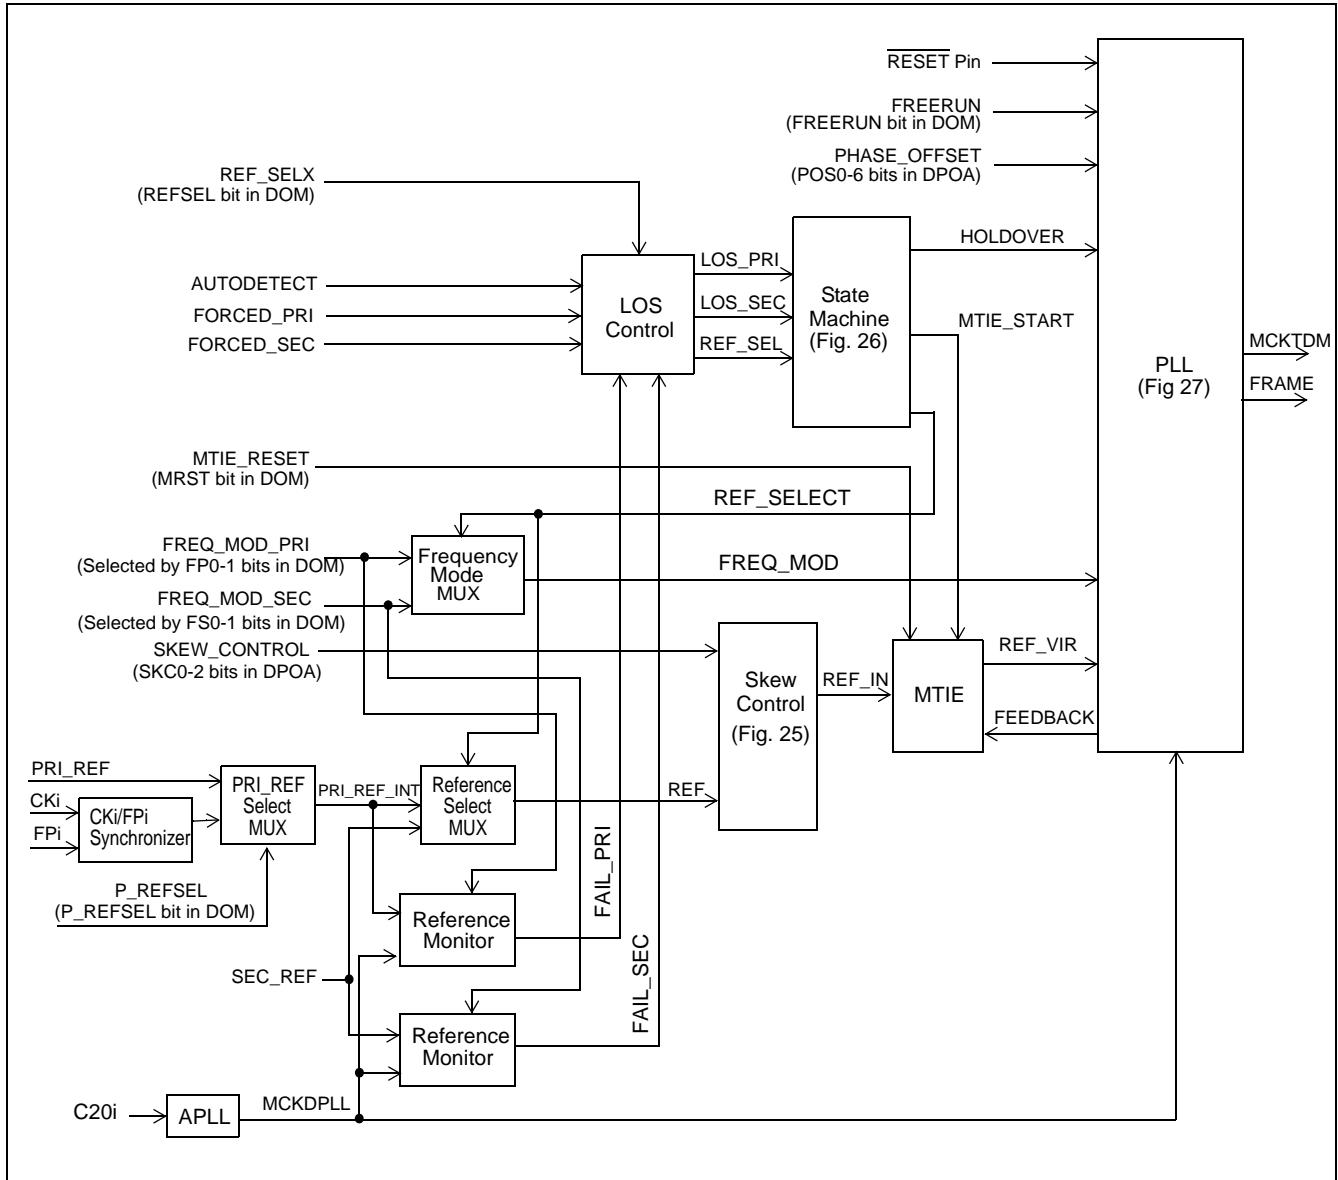
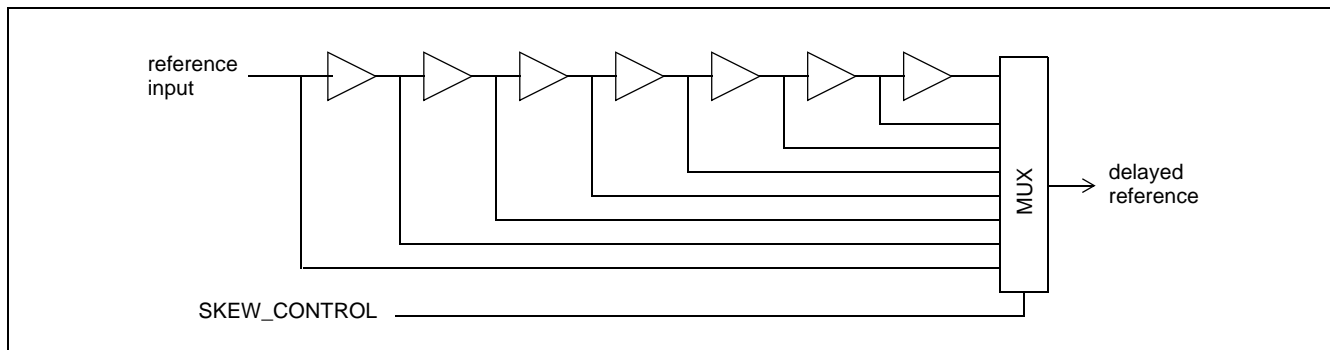
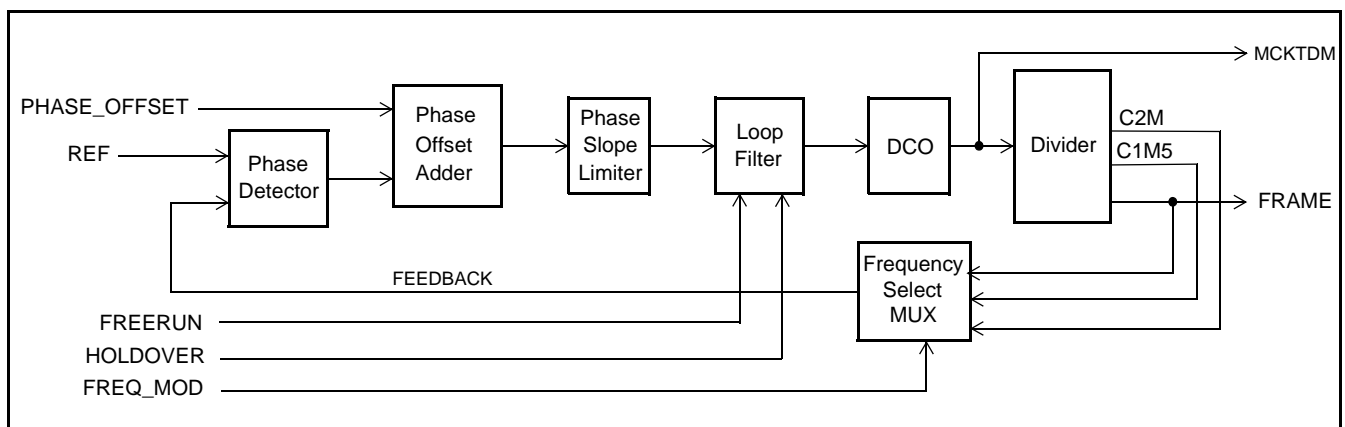

Figure 25 - DPLL Functional Block Diagram
Figure 26 - Skew Control Circuit Diagram
Figure 28 - Block Diagram of the PLL Module
The input streams STi0-15 are always sampled with the ST-BUS input clock  $\overline{CK}_i$ . The ST-BUS input frame pulse  $\overline{FP}_i$  denotes the input frame boundary. The objective of the DPLL is to generate the high speed internal clock MCKTDM (see Figure 25 on page 35). MCKTDM provides timing for the TDM switching function and timing for the ST-BUS outputs. (In this context  $\overline{CK}_{o0-2}$ ,  $\overline{FP}_{o0-2}$ , STo0-15 and STOHz0-15 are collectively known as the ST-BUS outputs.)
Figure 25 shows the functional block diagram of the DPLL. Major functional blocks are described in the following sections. When the DPLL is in Master or Freerun mode, the APLL input is C20i from the oscillator and the APLL multiplies C20i to generate the DPLL master clock MCKDPLL.
The ST-BUS input frame pulse ( $\overline{FPI}$ ) is sampled with the ST-BUS input clock ( $\overline{CKi}$ ) inside the CKi/FPi synchronizer to create the 8 kHz reference CKi/FPi. Either CKi/FPi or PRI\_REF is selected by the reference select bit (P\_REFSEL in the DOM register) as the PRI\_REF\_INT input to the Reference Select Mux in Figure 25.
The Skew Control circuit delays the selected reference input with an 8 tap tapped delay line (see Figure 26). The nominal delay between taps is 1.9 ns. Thus the selected reference can be delayed by 0 to 13.3 ns in steps of 1.9 ns (0 to 7 steps). The output tap is selected by SKEW\_CONTROL which corresponds to the SKC2-0 bits of the DPLL Output Adjustment (DPOA) register. Skewing the reference will cause the feedback signal in the PLL block (FEEDBACK in Figure 28 on page 38) to be delayed by the skew amount with respect to the original reference. This will cause the DPLL output to be delayed by the skew amount. Hence the ST-BUS outputs will be delayed by the skew amount.
The MTIE circuit receives the skewed reference from the Skew Control circuit and delays it. This delayed signal is used as a virtual reference (REF\_VIR in Figure 25 on page 35) to input to the PLL block. Therefore the virtual reference is a delayed version of the selected reference. During a reference switch, the state machine first changes the operation of the PLL from normal to holdover. In holdover, the PLL no longer uses the virtual reference signal, but generates a stable output clock using stored values. When the state machine changes to MTIE PRI or MTIE SEC, the PLL block remains operating in holdover. The MTIE circuit measures the phase delay between the current phase (FEEDBACK signal in Figure 25 on page 35) and the phase of the new reference signal (REF\_IN in Figure 25). The MTIE circuit stores the measured delay. From now on the MTIE circuit always delays the reference signal by the stored value to become the virtual reference. The virtual reference is now at the same phase position it would have been if the reference switch had not taken place. The state machine then returns the PLL to normal operation.
As shown in Figure 28, the PLL circuit consists of a Phase Detector, Phase Offset Adder, Phase Slope Limiter, Loop Filter, Digitally Controlled Oscillator, Divider and Frequency Select Mux.
**Digitally Controlled Oscillator (DCO)** - The DCO generates a high speed digital clock output. The DCO's frequency is modulated by the frequency offset value from the Loop Filter. The DCO output is the MCKTDM clock in Figure 25 on page 35 and Figure 28 on page 38. MCKTDM provides timing for the TDM switching function, and timing for the ST-BUS outputs.